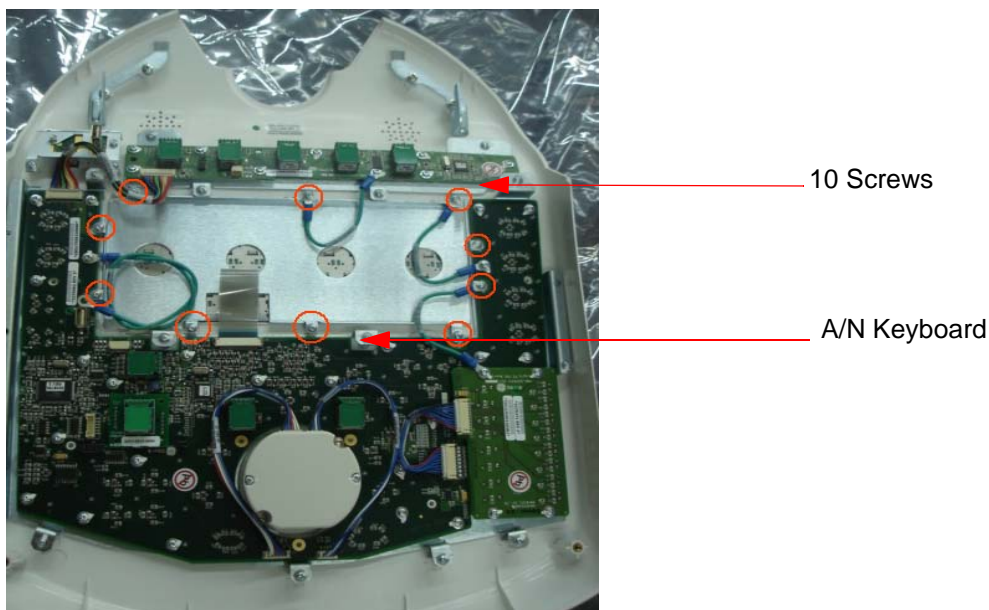

Figure 8-15 Alpha Numeric keyboard PCB
- 2) Remove the Alphanumeric Keyboard by unfastening the 10 screws (marked in Red color in Figure 8-15 on page 8-16) holding it & the Alphanumeric keyboard cable.